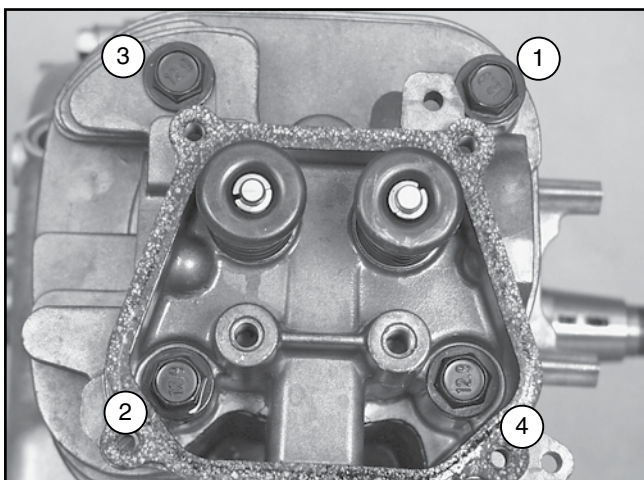

Figure 6-13. Head Bolt Tightening Sequence
5. Install the cylinder head bolts and tighten them in the sequence shown in Figure 6-13.